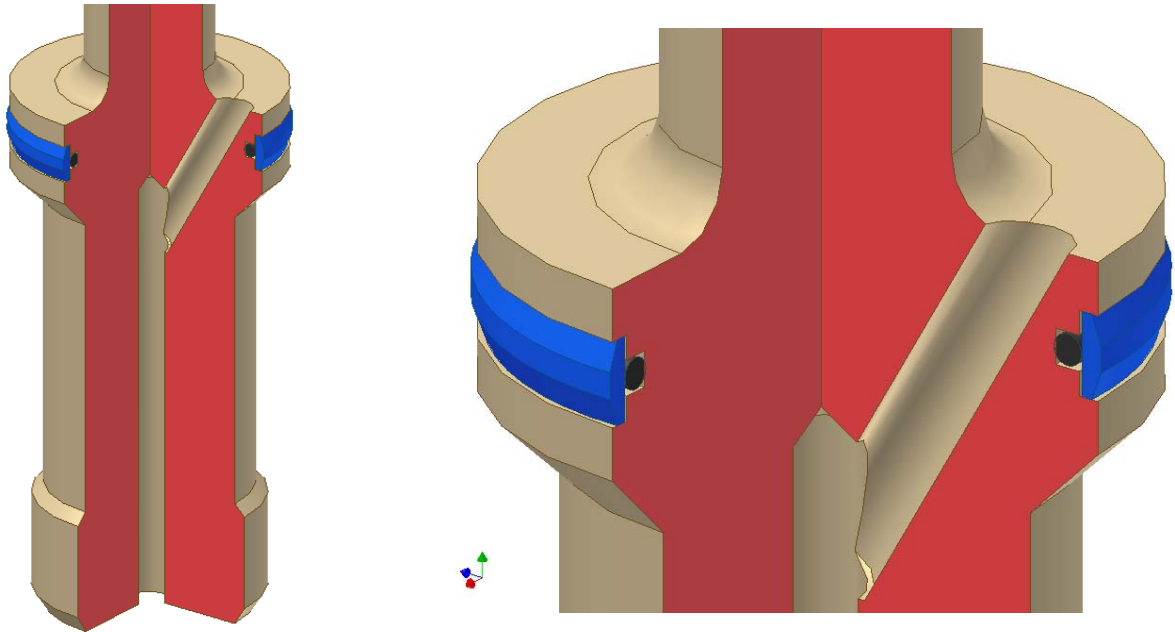

Figure 1: Pressure Balanced Sleeve with "O" ring and PTFE seal, showing pathways through plug
- One-piece plug with PTFE ring backed by “O” rings (Ambient temperature applications) – See figure 1